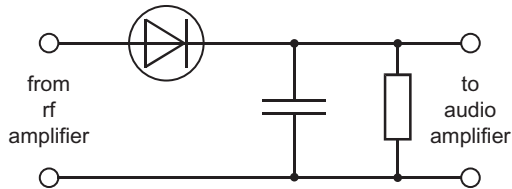
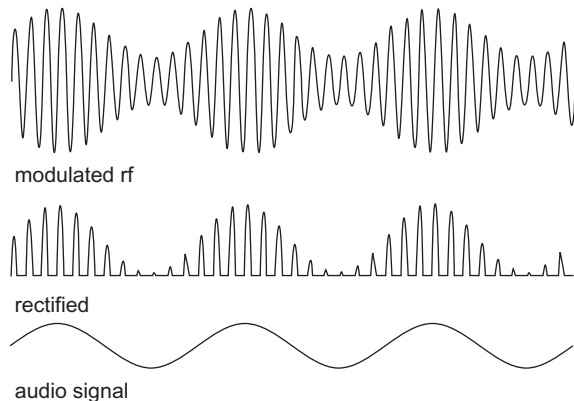

FIGURE 50.3
FIGURE 50.4
**Demodulator:** In an AM system, there are two stages in demodulation. The first stage is to rectify (p. 69) the output from the rf amplifier. The way this is done is shown in Figure 50.3. The effect of demodulating an audio transmission is shown in Figure 50.4.